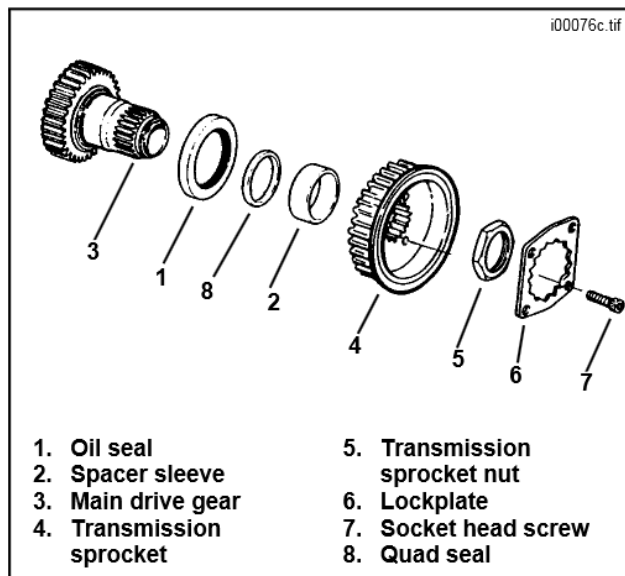
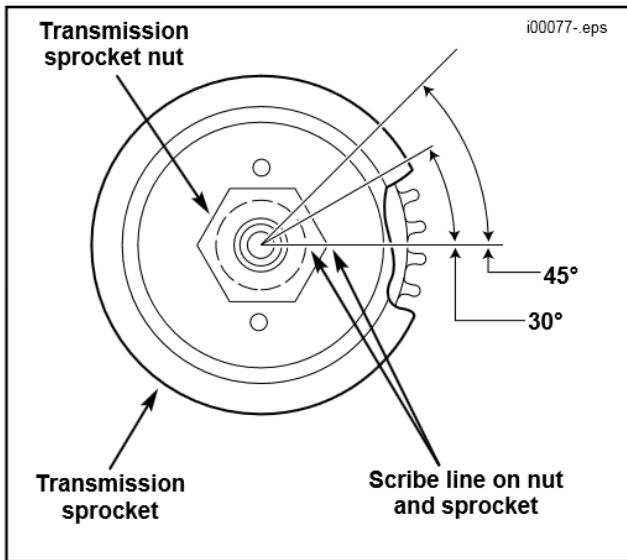

Figure 1. Transmission Sprocket Components
Figure 2. Final Tightening Of Transmission Sprocket Nut
3. See Figure 1. Install new oil seal (1) in bore of transmission housing (right crankcase half on XL models). Concave (hollow) side of seal faces inboard.
4. Install quad seal (8) on main drive gear shaft (3). Apply a small amount of appropriate H-D transmission lubricant to outside diameter surface of new spacer sleeve (2). Install new spacer sleeve (2), with chamfer facing inboard, over main drive gear (3).
5. Install new transmission sprocket (4) onto main drive gear shaft (3).
6. Apply a few drops of Loctite Threadlocker 262 (red) to the left-handed threads of new transmission sprocket nut (5). Apply a light film of oil to the flanged side (mating surface) of sprocket nut (5). Do not let oil contaminate the thread locking compound.
7. Lock transmission sprocket with SPROCKET LOCKING TOOL, Part No. HD-41184. Position nut (5) with flanged side facing transmission sprocket (4). Turn the nut counterclockwise to install it onto main drive gear (3). Using MAINSHAFT LOCKNUT WRENCH, Part No. HD-94660-37B, and a torque wrench, tighten the nut to 50 ft-lbs.
8. See Figure 2. Scribe a line on the transmission sprocket nut and continue the line on the transmission sprocket as shown.
10. See Figure 1. Install lockplate (6) over nut (5) such that two of lockplate's four drilled holes (diagonally opposite) align with sprocket's (4) two tapped holes. Lockplate is shaped to fit around the six corners of nut. Lockplate can be rotated to a number of positions, and can be positioned with either side facing sprockets, to allow for easy alignment.
11. If lockplate will not align with holes, tighten nut to 45° maximum as shown in Figure 2.